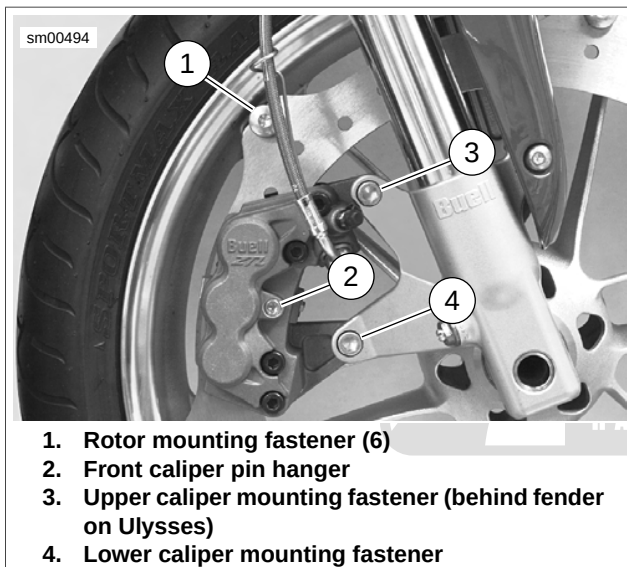

Figure 1-18. Front Brake Caliper (Typical)
1. See Figure 1-18. Loosen pin hanger (2) but do not remove.
2. Rotate wheel so that caliper is centered between rotor mounting fasteners (1).
3. Remove lower caliper mounting fastener (4) that secures caliper to fork lower.
4. Loosen but do not remove upper caliper mounting fastener (3) that secures caliper to fork lower.
5. Remove pin hanger (2).
5. See Figure 1-18. Install pin hanger (2) making sure it engages hole on both pads and spring clip.
7. Install lower caliper mounting fastener (4).
9. Tighten pin (2) to 11-14 ft-lbs (15-19 Nm).